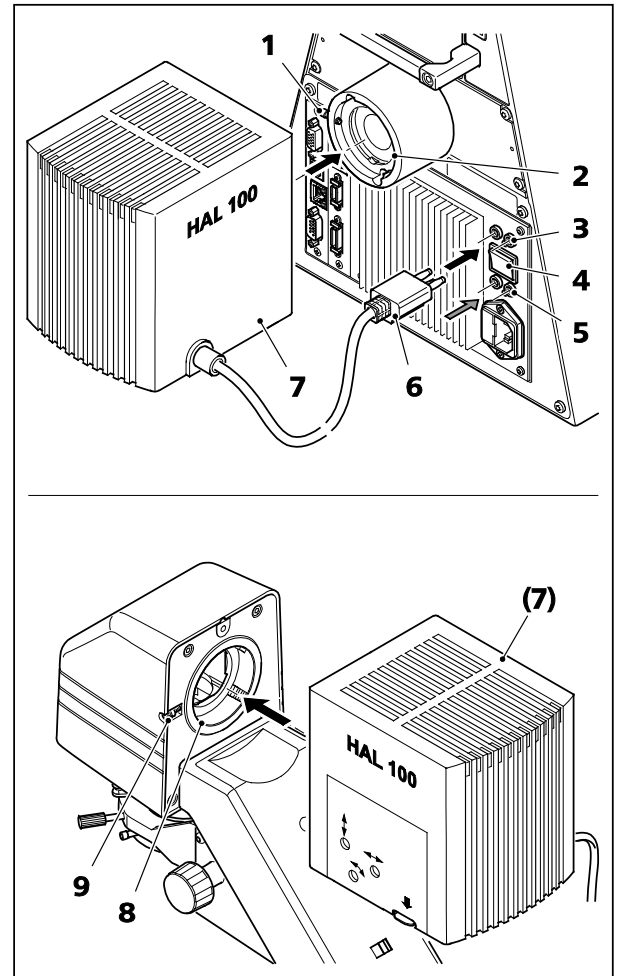
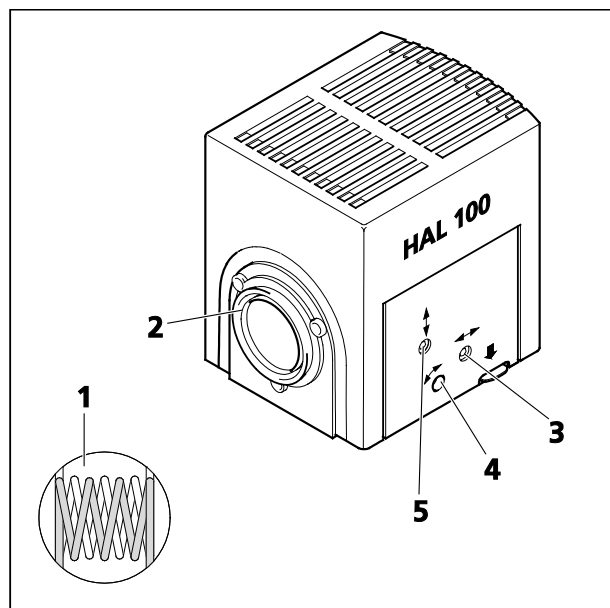
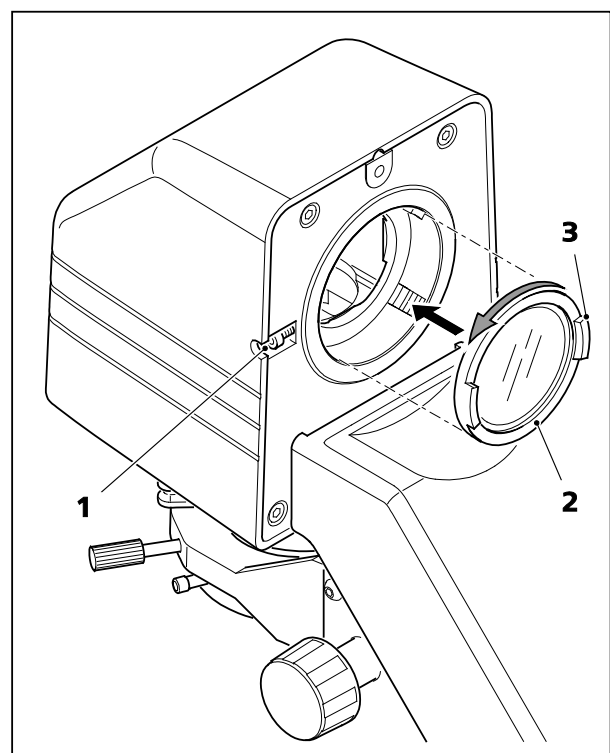

Fig. 50 Fitting the HAL 100 illuminator
Fig. 51 Adjusting the HAL 100 illuminator
Fig. 52 Fitting/removing the diffusion disk
- Insert the dovetail ring of the lamp housing (Fig. 50/7) into the corresponding socket (Fig. 50/8 or Fig. 50/2) and, using the 3 mm ball-headed screwdriver, tighten it with clamping screw (Fig. 50/1 or Fig. 50/9).
- Insert the 3-pin lamp plug (Fig. 50/6) into the corresponding 3-pin socket (Fig. 50/3 for transmitted light or Fig. 50/5 for reflected light) on the rear of the instrument.
- Switch the transmitted light / reflected light toggle switch (Fig. 50/4) to the required position.
(1) Coarse adjustment
- After loosening the clamping screw (Fig. 50/1 or Fig. 50/8), remove the halogen illuminator (Fig. 51/3) which is ready for use from the microscope stand.
- Using a 3 mm ball-headed screwdriver, turn the adjusting screw (Fig. 51/3) until both images of the lamp filament appear as sharp as possible on the projection surface.
- Then turn the two adjusting screws (Fig. 51/4 and 5) until the lamp filament of one image exactly fills the gaps in the reflected filament image (Fig. 51/1).
(2) Fine adjustment
- If necessary, loosen the clamping screw (Fig. 52/1) and remove the HAL 100 from the transmitted light illumination mount.
- Manually unscrew the diffusion disk (Fig. 52/2) from the mount (anti-clockwise). Hold the edge of the diffuser by the projections on the disk (Fig. 52/3).
- Remove the eyepiece and center the lamp filament and its reflection in the pupil image using the adjusting screws (Fig. 51/4 and 5).
- Turn the adjusting screws (Fig. 51/3) until the illumination of the visible image is as homogeneous as possible.
- Switch off the microscope and remove the plug (Fig. 50/6) from the 12 V/100 W socket (Fig. 50/3 for reflected light or Fig. 50/5 for transmitted light). Allow to cool for about 15 min.